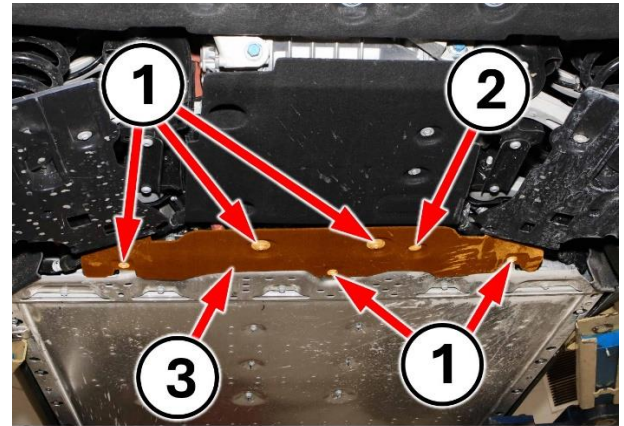

Figure 12 – Battery Belly Pan
- 25. Remove the screws from the battery belly pan (Figure 12).
- 26. Disengage the push pin retaining the battery belly pan (Figure 12).
- 27. Remove the rear battery belly pan from the vehicle (Figure 12).